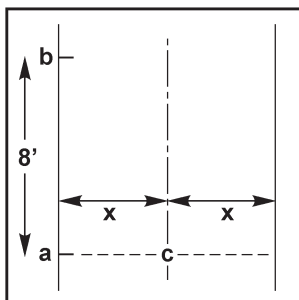

Figure 38
2. Refer to the dimensions in Figure 3 and using the base line as a reference, mark lines “a”, “b”, and center line “c” (see Figure 38).